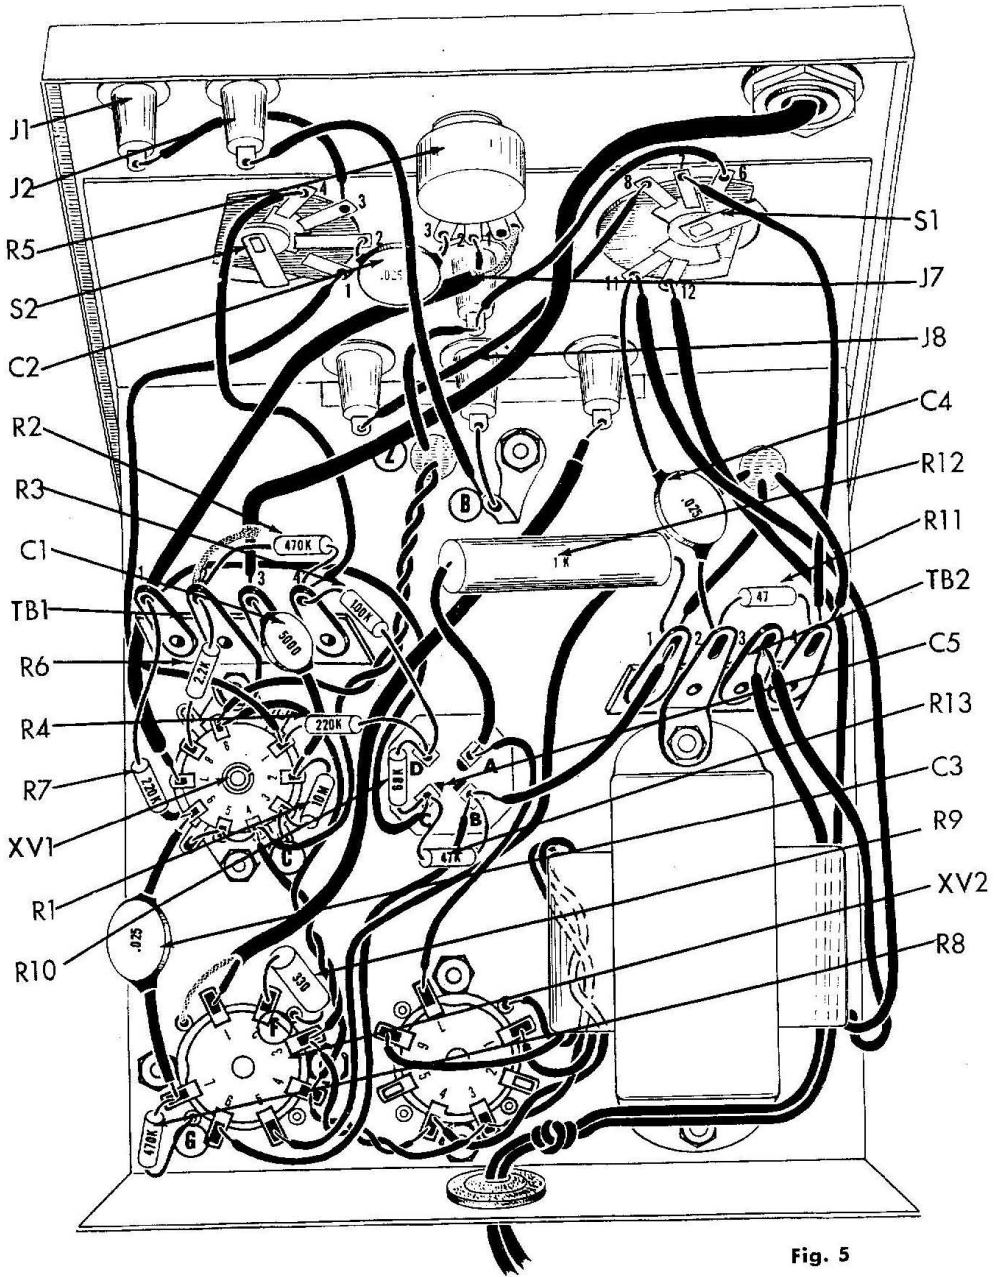

Fig. 5
1. ( ) Fig. 5. Connect the blue wire from hole "Z" to J7 (C).
2. ( ) Fig. 5. Connect a 3" piece of blue wire from J7 (S) to S1-6 (S).
3. ( ) Fig. 5. Connect a 1" piece of bare wire from J8 (S) to ground lug "B" (C).
4. ( ) Fig. 5. Strip back 3/4" the outer insulation from both ends of a 6" piece of shielded cable. Twist the shield strands together. Cut off these shield strands on one end of the cable. Strip the inner insulation of the inner conductor back 1/4" on both ends. Connect the twisted shield strands to R5-1 (C) and the inner conductor on the same end to R5-2 (S). Run the cable along the chassis as shown and connect the other end to XV1-7 (S).
5. ( ) Fig. 5. Bend the pot grounding lug over R5-1 (S).
6. ( ) Fig. 5. Cut both leads on .025 mfd (25K or 25,000 mmf) capacitor, C2, to 1/2". Connect from R5-3 (S) to S2-2 (S).
7. ( ) Fig. 5. Connect a 4" piece of brown wire from J2 (S) to ground lug "B" (S).
- 7A. ( ) Fig. 5. Connect a 2" piece of blue wire from J1 (S) to S2-3 (S).
8. ( ) Fig. 5. Cut both leads on a 470K $\Omega$  (yellow, violet, yellow, silver) resistor, R2, to 3/4". Connect from TB1-2 (C) to TB1-4 (C).
9. ( ) Fig. 5. Cut both leads on a 2.2K $\Omega$  (red, red, red, silver) resistor, R6, to 3/4". Connect from TB1-2 (S) to XV1-8 (S).
10. ( ) Fig. 5. Cut both leads on a 220K $\Omega$  (red, red, yellow, silver) resistor, R7, to 3/4". Cover one lead with a 1/2" piece of spaghetti and connect to XV1-6 (C). Connect the other lead to TB1-1 (S).
11. ( ) Fig. 5. Connect a 3/4" piece of bare wire from XV1-3 (C) to ground lug "C" (S) on XV1.
12. ( ) Fig. 5. Cut both leads on a 10M $\Omega$  (brown, black, blue, silver) resistor, R1, to 1/2" and connect from XV1-2 (C) to XV1-3 (S).
13. ( ) Fig. 5. Cut both leads on a 220K $\Omega$  (red, red, yellow, silver) resistor, R4, to 3/4" and connect from XV1-1 (S) to C5D (C).
14. ( ) Fig. 5. Cut both leads on a 5000 mmf (5K mmf or .005 mfd) disc capacitor, C1, to 3/4". Cover one lead with a 1/2" piece of spaghetti and connect to XV1-2 (S). Connect the other lead to TB1-3 (S).
15. ( ) Fig. 5. Cut both leads on a 100K $\Omega$  (brown, black, yellow, silver) resistor, R3, to 3/4". Connect from TB1-4 (S) to C5D (C).
16. ( ) Fig. 5. Cut both leads on a 47K $\Omega$  (yellow, violet, orange, silver) resistor, R13, to 3/4". Connect from C5B (S) to C5C (C).
17. ( ) Fig. 5. Cut both leads on a 68K $\Omega$  (blue, grey, orange, silver) resistor, R10, to 3/4". Connect from C5C (S) to C5D (S).
18. ( ) Fig. 5. Cut both leads on a .025 mfd (25K or 25,000 mmf) disc capacitor, C4, to 1 1/4". Connect from S1-11 (S) to TB2-2 (C).
19. ( ) Fig. 5. Cut both leads on a 47 $\Omega$  (yellow, violet, black, silver) resistor, R11, to 3/4". Connect from TB2-2 (S) to TB2-4 (S).
20. ( ) Fig. 5. Cut one lead on the 1K $\Omega$  (1000 ohm) 5 watt resistor, R12, to 1/2" and the other lead to 1 1/2". Cover the longer lead with a 1 1/4" piece of spaghetti and connect to C5A (S). Connect the other lead to TB2-1 (S). Dress resistor away from the other leads.
21. ( ) Fig. 5. Cut both leads on a 330 $\Omega$  (orange, orange, brown, silver) 1 watt resistor, R9, to 3/4". Connect from XV2-2 (S) to ground lug "F" (S) on XV2.
22. ( ) Fig. 5. Cut both leads on a 470K $\Omega$  (yellow, violet, yellow, silver) resistor, R8, to 1/2". Connect from XV2-7 (C) to ground lug "G" (S).
23. ( ) Fig. 5. Cut both leads on a .025 mfd (25K or 25,000 mmf) capacitor, C3, to 1 1/4" and cover each lead with a 1" piece of spaghetti. Connect from XV1-6 (S) to XV2-7 (S).
24. ( ) Fig. 5. Push the line cord through the grommet at the rear of the chassis and make a knot 7" from the end of the cord with the tinned leads, inside the chassis. "Zip" the two leads apart from the tinned end for 3" and cut one of the leads 2" from the end. Connect the longer lead to S1-12 (S) and the shorter lead to TB2-3 (S).